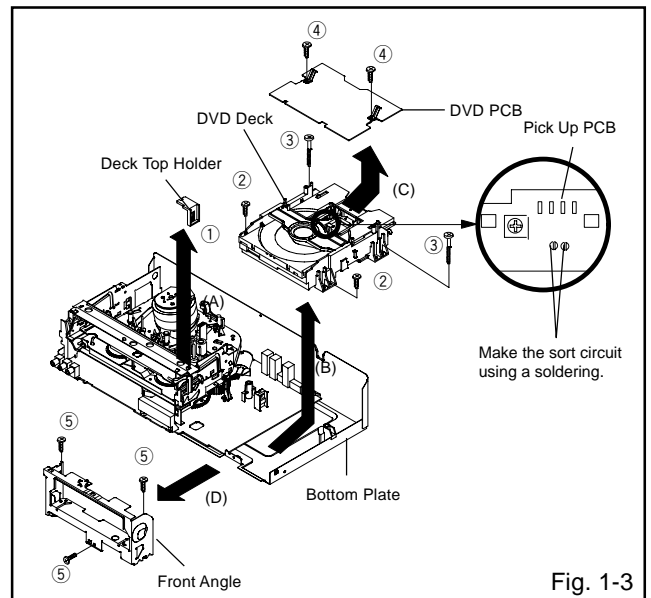

Fig. 1-3
1-3: DVD DECK/DVD PCB (Refer to Fig. 1-3)
1. Make the short circuit on the position as shown Fig. 1-3 using a soldering. If you remove the DVD Deck with no soldering, the Laser may be damaged.
2. Unlock the support ① and remove the Deck Top Holder in the direction of arrow (A).
3. Remove the 2 screws ②.
4. Remove the 2 screws ③.
6. Remove the DVD Deck in the direction of arrow (B).
8. Remove the 2 screws ④.
9. Remove the DVD PCB in the direction of arrow (C).
10. Remove the 3 screws ⑤.
11. Remove the Front Angle in the direction of arrow (D).